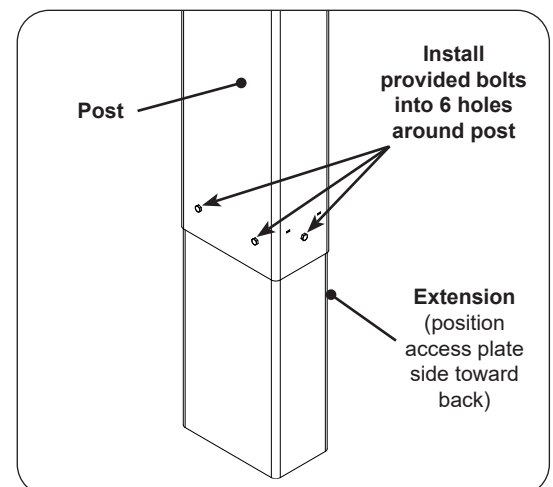

Fig. 31-3 Install extension to post
1. Attach the extension to the bottom of the grill post so that the open portion is facing the same direction as the access plate and the five holes in the extension line up with the six (6) weld-nuts in the post (see Fig. 31-3).